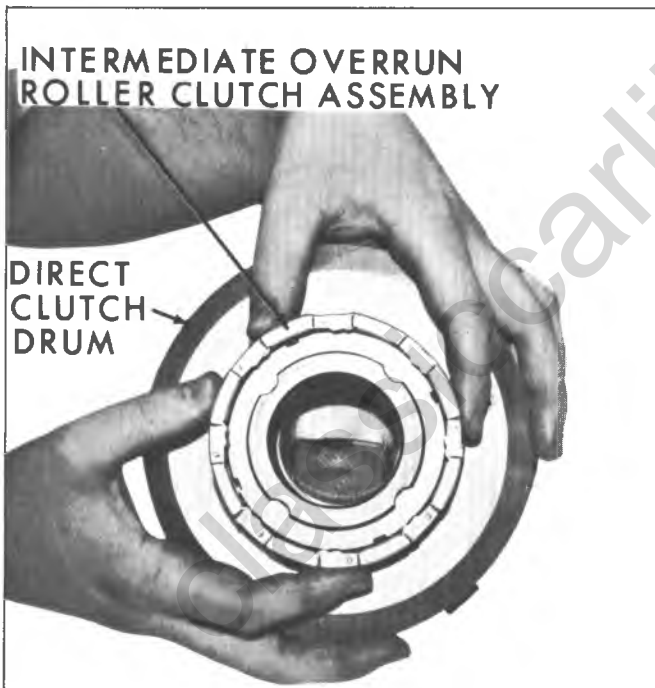

Fig. 68M--Removing Intermediate Overrun Roller Clutch
3. Remove intermediate overrun roller clutch assembly (fig. 68M).